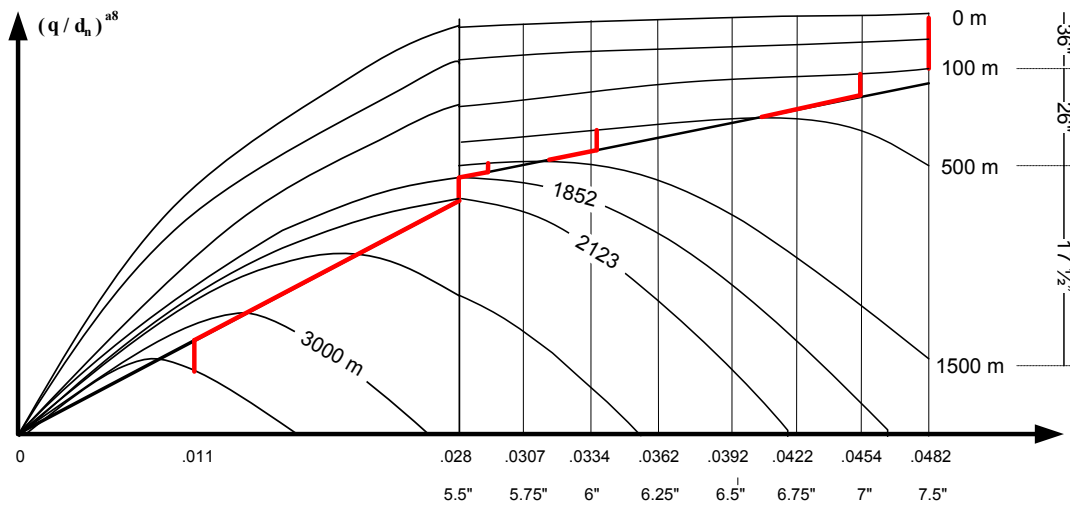

Figure 4-6: Graphical solution.
d) From Table 4-6 in the Task section we can see that between 1 500 and 3 000 m there are two potential options. However, from Figure 4-6 above we already know that at 1 852 m we are inside pump range I, and applying the 5½" liner. We also see that the maximum flow rate of the 5½" liner is the optimum one for most of its operational time. This has already been shown in task b) above.
a) Find first what working area prevails in the boundary zone between pump are II and I, which are valid as indicated in Figure 4-6. Area II ends with the 5.75" liner when $q_{max, 5.5}$ is reached: